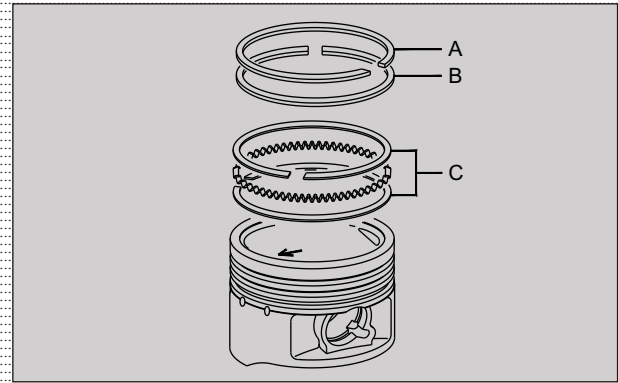

Fig. 3.161
- Remove ring piston 1st (A), ring piston 2nd (B) and ring piston oil (C). (Fig. 3.161)